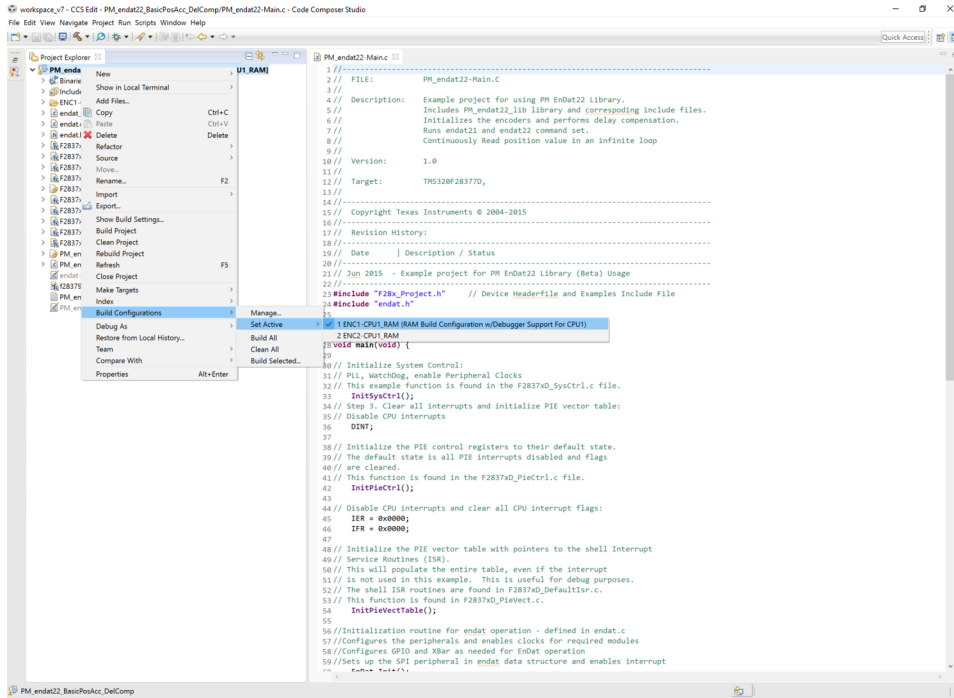

图 8. Selecting F2837x_RAM Configuration
- The project can be configured to create code and run in either Flash or RAM. Either of the two can be selected, however, RAM configuration is used most of the time for lab experiments and Flash configuration for production. As shown in 图 8, right-click on an individual project and select *Active Build Configuration* → *CPU1_RAM* configuration.